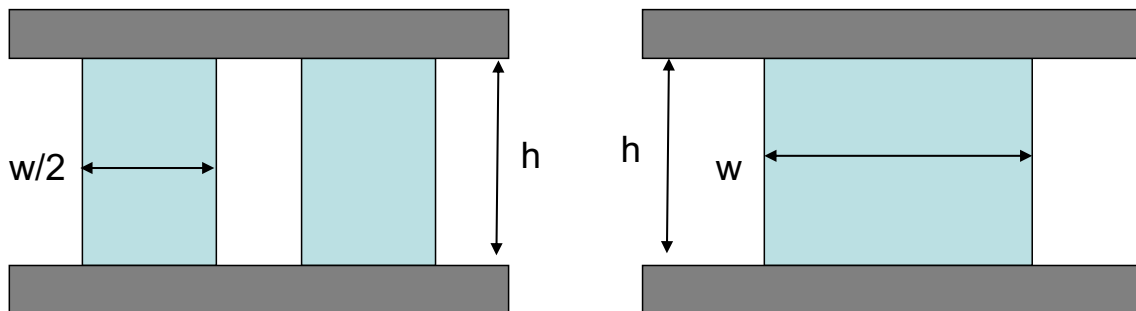

Fig. 1. Dimensions of the blocks for forging
- Find the expression of the average forging pressure and forging force for plane strain forging of blocks having initial height  $h$  to a final height of  $h/2$ . There are two cases shown in the Fig.1. Assume all sliding conditions and coefficient of friction as  $\mu$ . Also check the results with approximate average pressure formula for pure sliding. Which one is higher? Please provide a physical explanation.